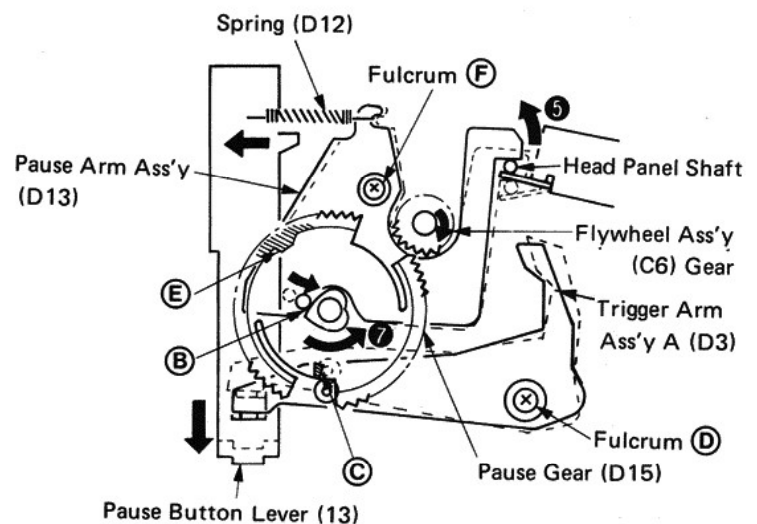

Fig. 11
- 1 Pressing the PAUSE button again releases the pause button lever (13) and allows the trigger arm assembly A (D3) to move backward. The lock ③ of the pause gear (D15) is thereby disengaged.
- 2 Since the pause arm assembly (D13) pushes the pause gear (D15) at Point B with the aid of the spring (D12), the pause gear begins to rotate in direction ⑦.
- 3 The pause gear (D15) continues to rotate since it is meshed with the gear of the flywheel assembly (C6). The pause gear stops at the point where Point ⑤ comes in contact with Point ③. At that time the flywheel keeps on revolving but the pause gear does not rotate since there is a partial lack of teeth on the pause gear (D15).
- 4 Since the pause arm assembly (D13) returns in direction ⑤, the head panel shaft (namely the head panel assembly) is restored to normal to assume the PLAY (or REC) condition as shown in Fig. 4. (Fig. 11)